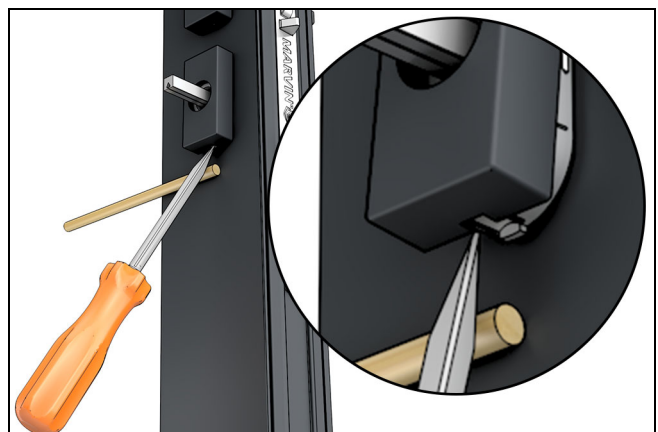

Figure 3
13. **To remove the handle covers:** use a small screwdriver to pry the cover off, releasing the cover from the tabs on the base. See Figure 3. Use a wooden dowel or other non marking tool to gain more leverage.